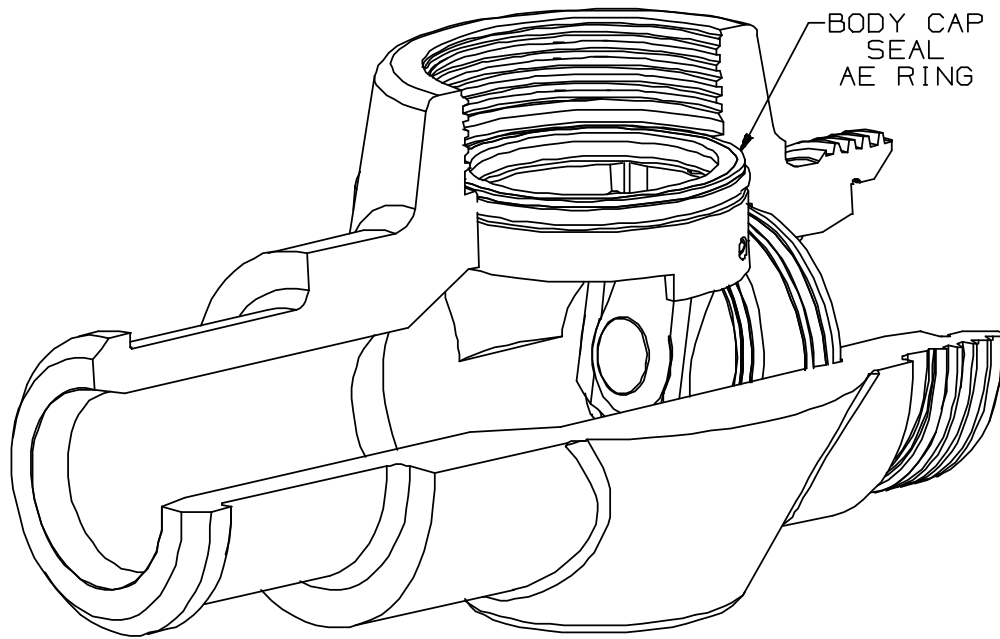
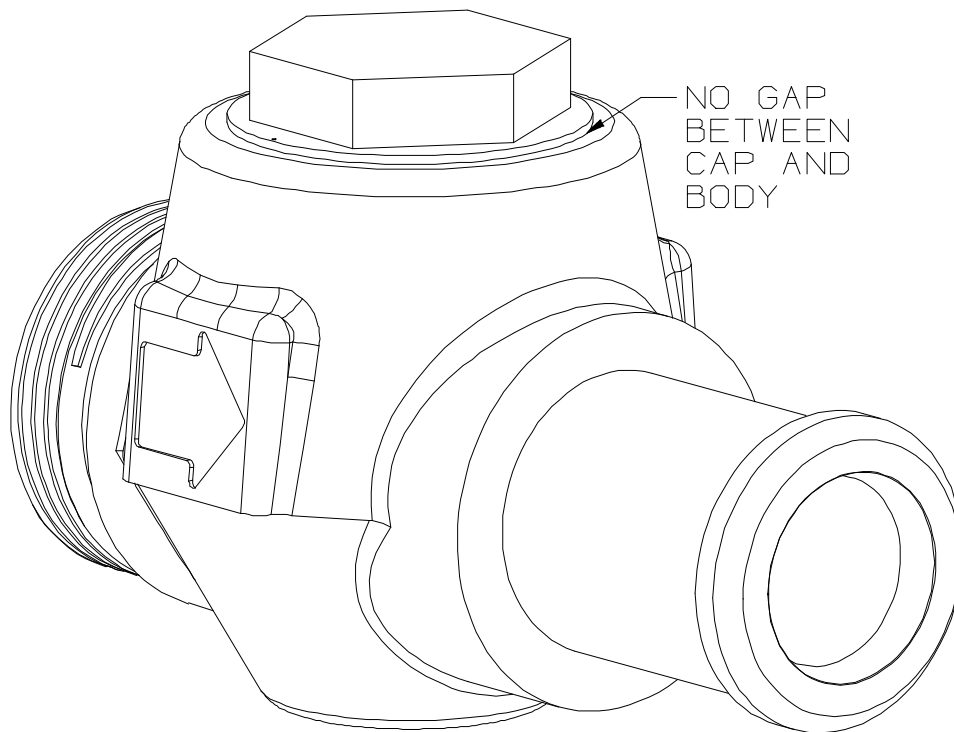

Figure 5: Body Cap Seal Installation
Figure 6: Body Cap Installed
7. Lubricate the gland in the top of the body that will receive the body cap seal (9).
8. Install the body cap seal (9) down into the body until it rests against the top of the pivot pin retainer (4). Make sure that the AE ring of the seal is facing up towards the body cap opening. See Figure 5.
10. Lightly lubricate and install the environmental o-ring (10) over the threads and onto the shoulder relief of the body cap (2).
12. Thread the body cap into the body. THE BODY CAP SEAL (9) MUST ALREADY BE IN THE VALVE PER STEP 8 ABOVE. Apply a torque of 500 ft-lb to the body cap. Be sure the body cap has fully seated against the body. There should be no gap between the body and cap. The shoulder of the body cap will bottom out against the top of the valve body. See Figure 6.
13. Install detachable nut (12) with retainer segments (13) and retainer ring (14) on male sub end. Make certain the retainer ring is correctly installed onto the retainer segments and that the retainer ring is fully seated in the groove on the retainer segments.
14. Install the seal ring (11) into the female sub end.